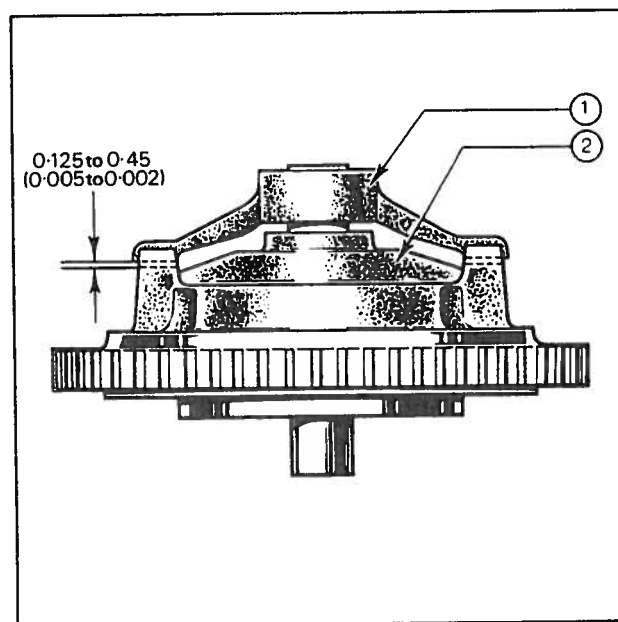

Fig. 13 Position of the Drive Dog
4. Fit the pump body and rotor shaft assembly to the gear housing, support the rotor shaft and press on the drive dog to achieve the dimensions as shown in Fig. 13.